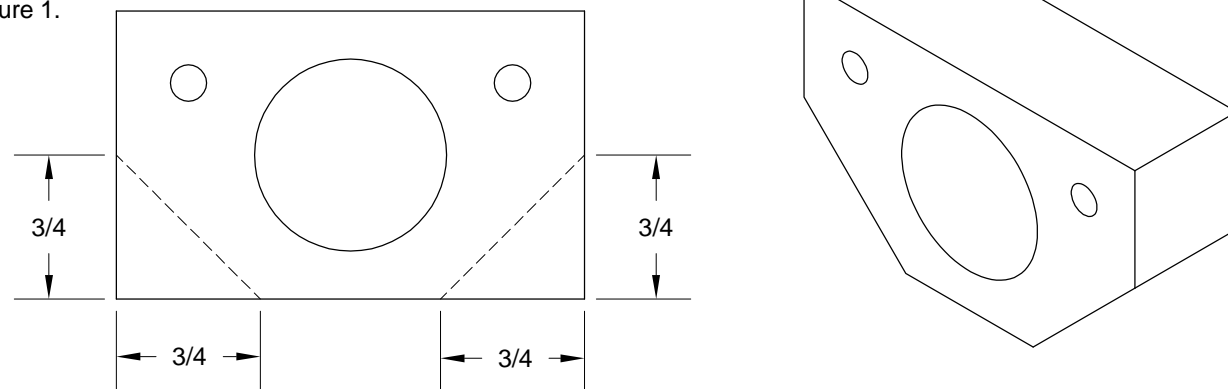

FIGURE 1: TRIMMING THE F-1262 FLAP HANDLE BLOCKS
Step 1: Trim the corners from the two F-1262 Flap Handle Blocks as shown in Figure 1.